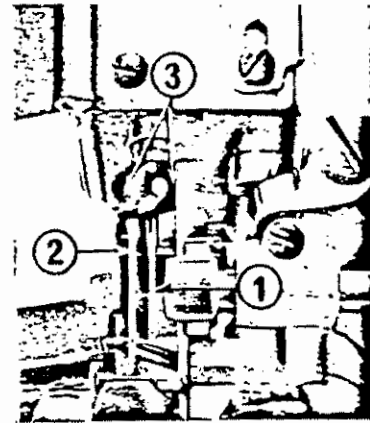

Fig 7
#### 5. The needle and its insertion (Fig. 7)
Use a needle size DC×27(81×27) for overlock stitching, ①, Fig. 7. (on the right side, facing the machine)
For safety stitching, use a needle DC×27, (81×27) ② Fig. 7. (on the left side)